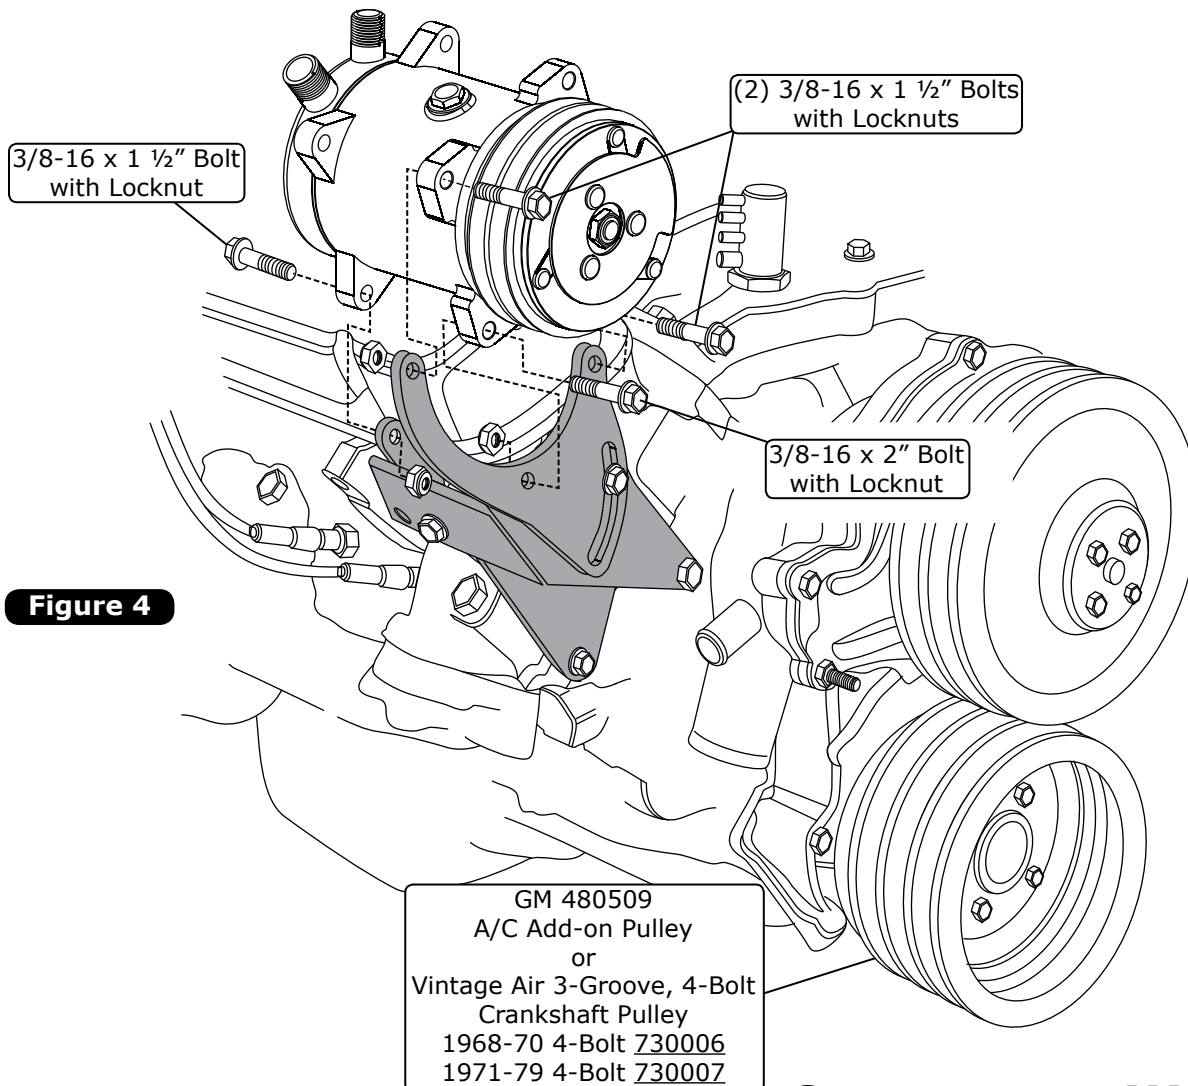

Figure 4
1. Install the compressor as shown in Figure 4, below. Secure using (3) 3/8-16 x 1 1/2" bolts with locknuts and (1) 3/8-16 x 2" bolt with locknut (See Figure 4, below). **NOTE: Compressor mounts on the front side of the bracket. Install the bolts through compressor, then through the bracket.**